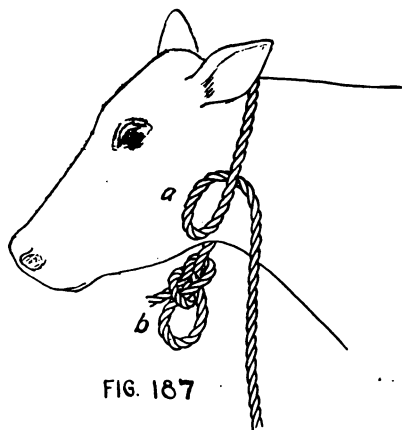
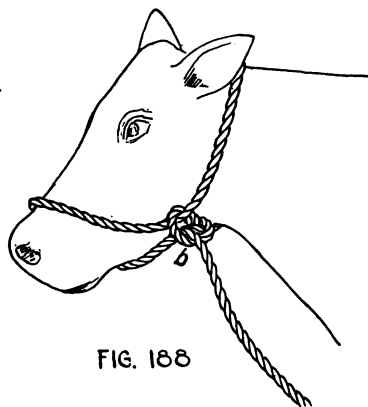

FIG. 187
FIG. 188
**Temporary Halter.** A very convenient halter for leading or temporarily holding cattle is made by fastening an iron ring or making a loop in the end of a rope. The end with the ring is first passed around the animal's neck. A loop *a* is then formed in the main rope, (fig. 187) passed through the loop *b* and over the animal's nose as shown in fig. 188. To remove the halter